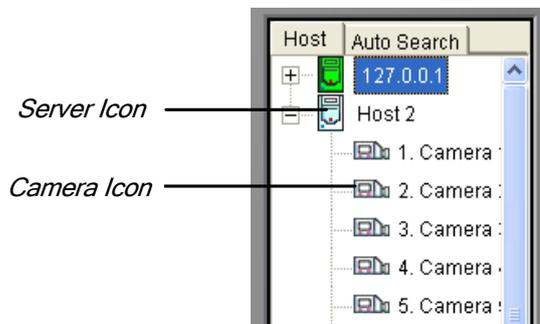

Figure 6-33 The Host Server Window
5. Alternatively, you can click and drag the created camera channel from the Host Server window (Figure 6-33) to each **Edit** tab. Note that all created camera channels must be added to each Edit tab in the order of 1 to 16.